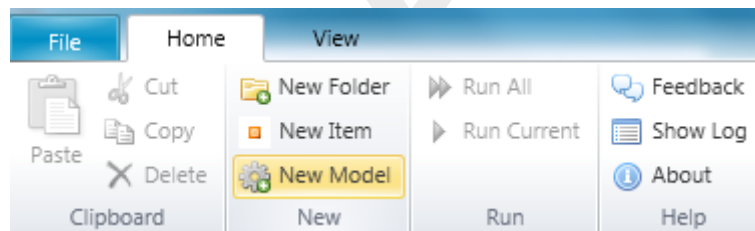

Figure 1.1: Home ribbon with the Add New Model button selected.
- ◇ Click *Add New Model* in the **Home** tab of the ribbon (Figure 1.1)